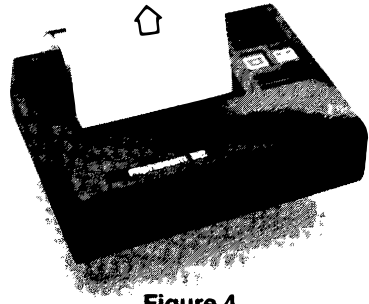

Figure 4
STEP 4: Confirm that the paper is feeding correctly by pressing the ON/ADVANCE switch. Check that the paper feeds smoothly, evenly, and remains properly centered within the thermal head area. See Figure 4. When you are satisfied that the threading is correct, the excess paper may be removed by using the built-in paper tearing edge.